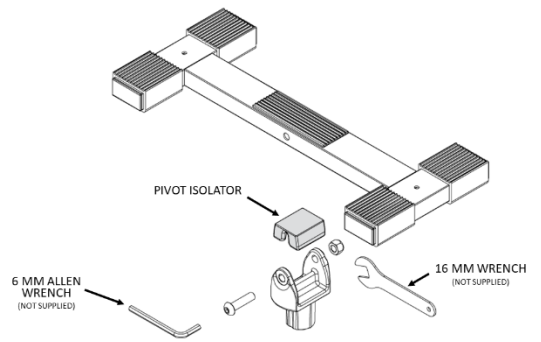

FIGURE 6a
7. If the ceiling is sloped relative to the floor, remove the PIVOT ISOLATOR using a 6mm Allen wrench (not supplied) and 16mm wrench (not supplied) from the CEILING PIVOT ASSEMBLY, as shown in Figure 6a. If the ceiling is parallel to the floor, DO NOT remove PIVOT ISOLATOR.